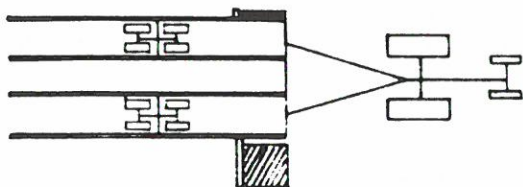
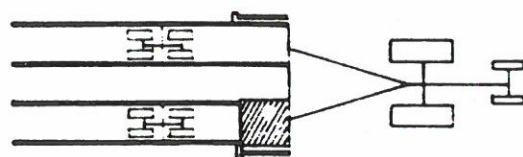

FIGURE 12
FIGURE 13
1. Approach the round bale with the right fork in the lowered position, Fig. 12. Advance till the bale rests firmly between the fork lift teeth, Fig. 12. Raise the fork, until the bale falls onto the mover bed, Fig. 13.